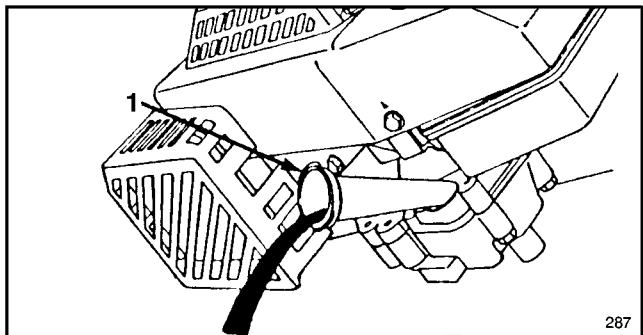

Figure 19
7. Tip mower on its left side, allowing oil to drain into drain pan (Fig. 19).